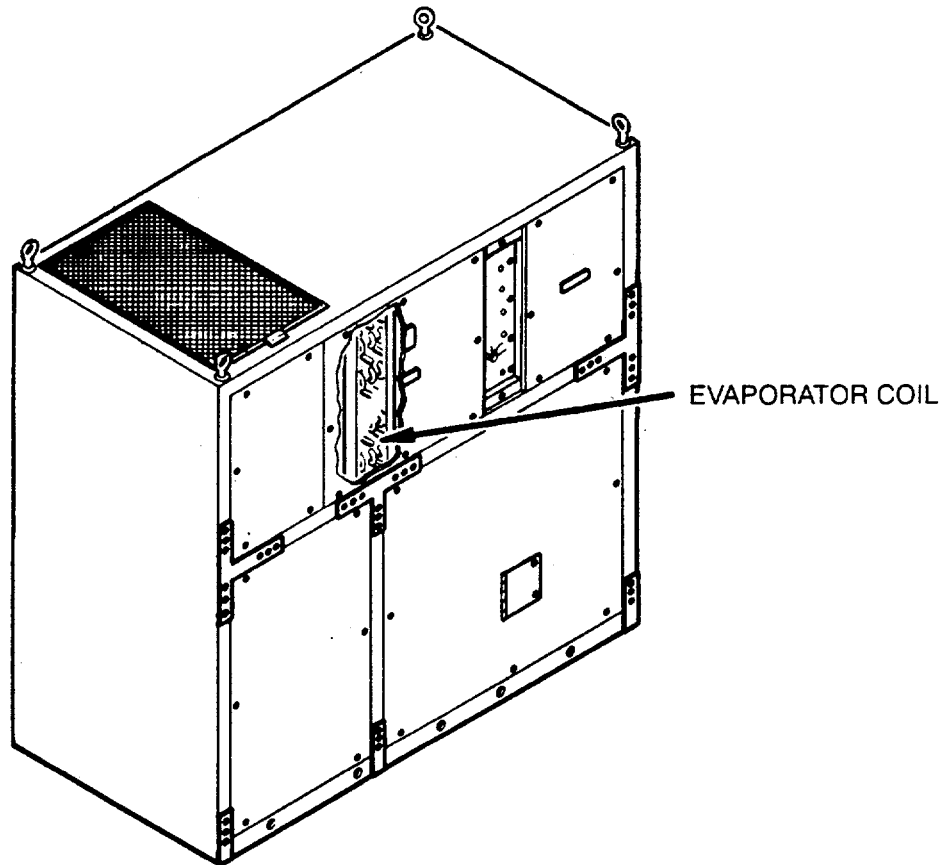

Figure 4-91. Evaporator Coil Cleaning
1. Check for accumulated dirt. Clean if dirt is evident (see Figure 4-91).